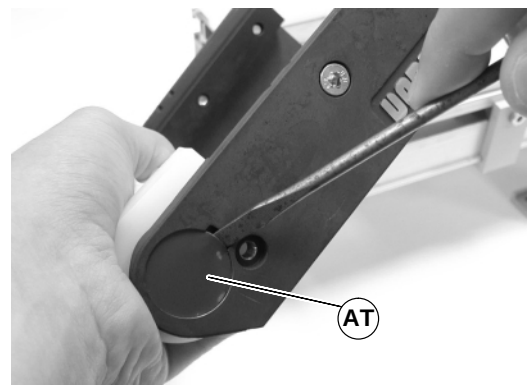

Figure 30
2. Remove bearing covers (AT of Figure 30).